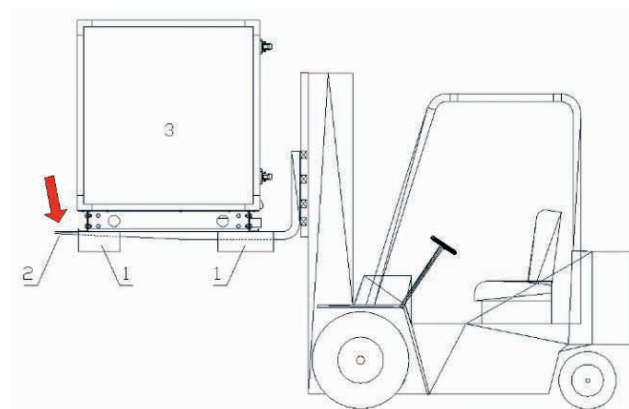

Figure 3
- Forks may only exert pressure to the bottom frame whereby the forks should reach beyond the last part of the section frame – Figure 3.